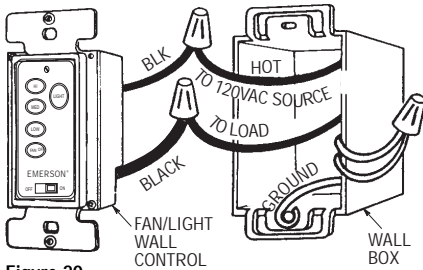

Figure 20
- ❑ 4. Connect one black wire of wall control to the "hot" wire. Securely connect wires with wire connectors supplied (Figure 20).